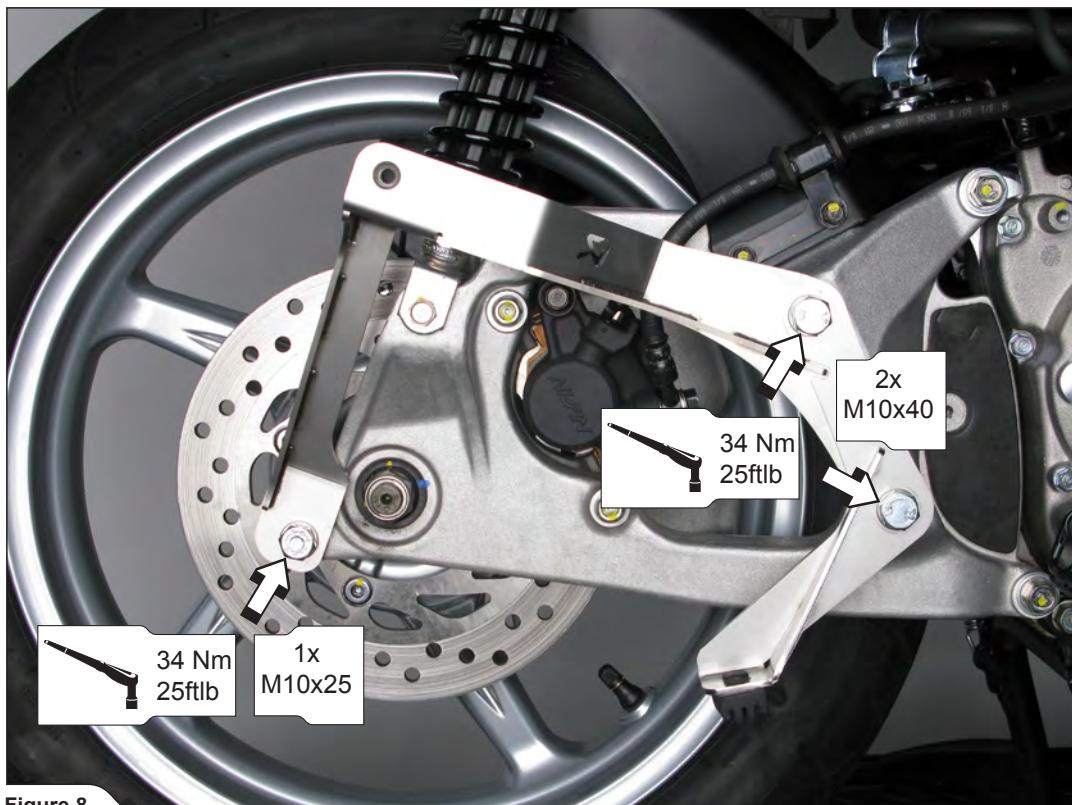

Figure 8
2. Correctly install both Akrapovič brackets onto the swing arm, using Akrapovič bolts and washers (**Figure 8**).